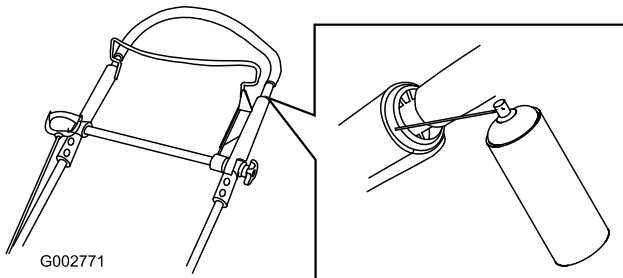

Figure 42
1. Spray the outer plastic end of the inner handle (Figure 42).